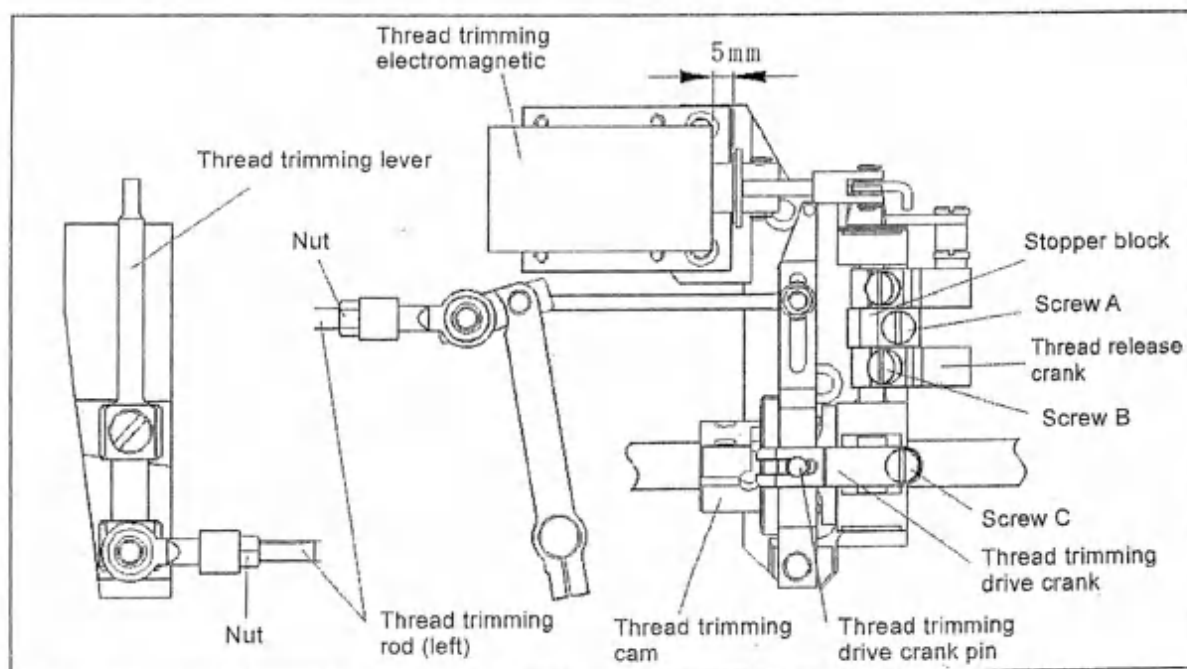

Fig.24
- 1) Lean the machine head backward, screw out the bottom cover screw (1) of hook saddle, open bottom cover (2).
- 3) Loosen thread finger cam screw (3), adjust thread finger cam (4), make thread finger site on the nearest position of hook, and then retighten thread finger cam screw.
- 4) Loosen hook opener screw (5), adjust the distance between thread finger and hook is 0.3-0.4mm.
33. The thread trimming device adjustment(Fig.24)